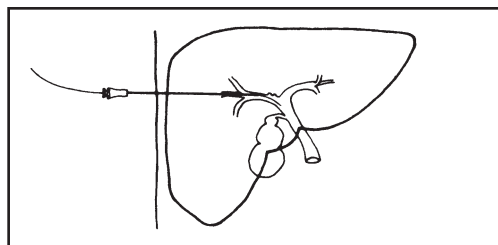

Figure 1.
2. Carefully advance 0.47 mm (0.018 in) wire through needle. See Figure 1.